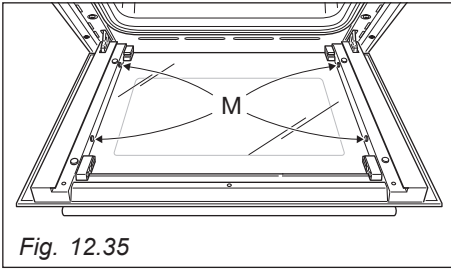

Fig. 12.35
- Check that the four rubber pads are in place ("M" in fig. 12.35).